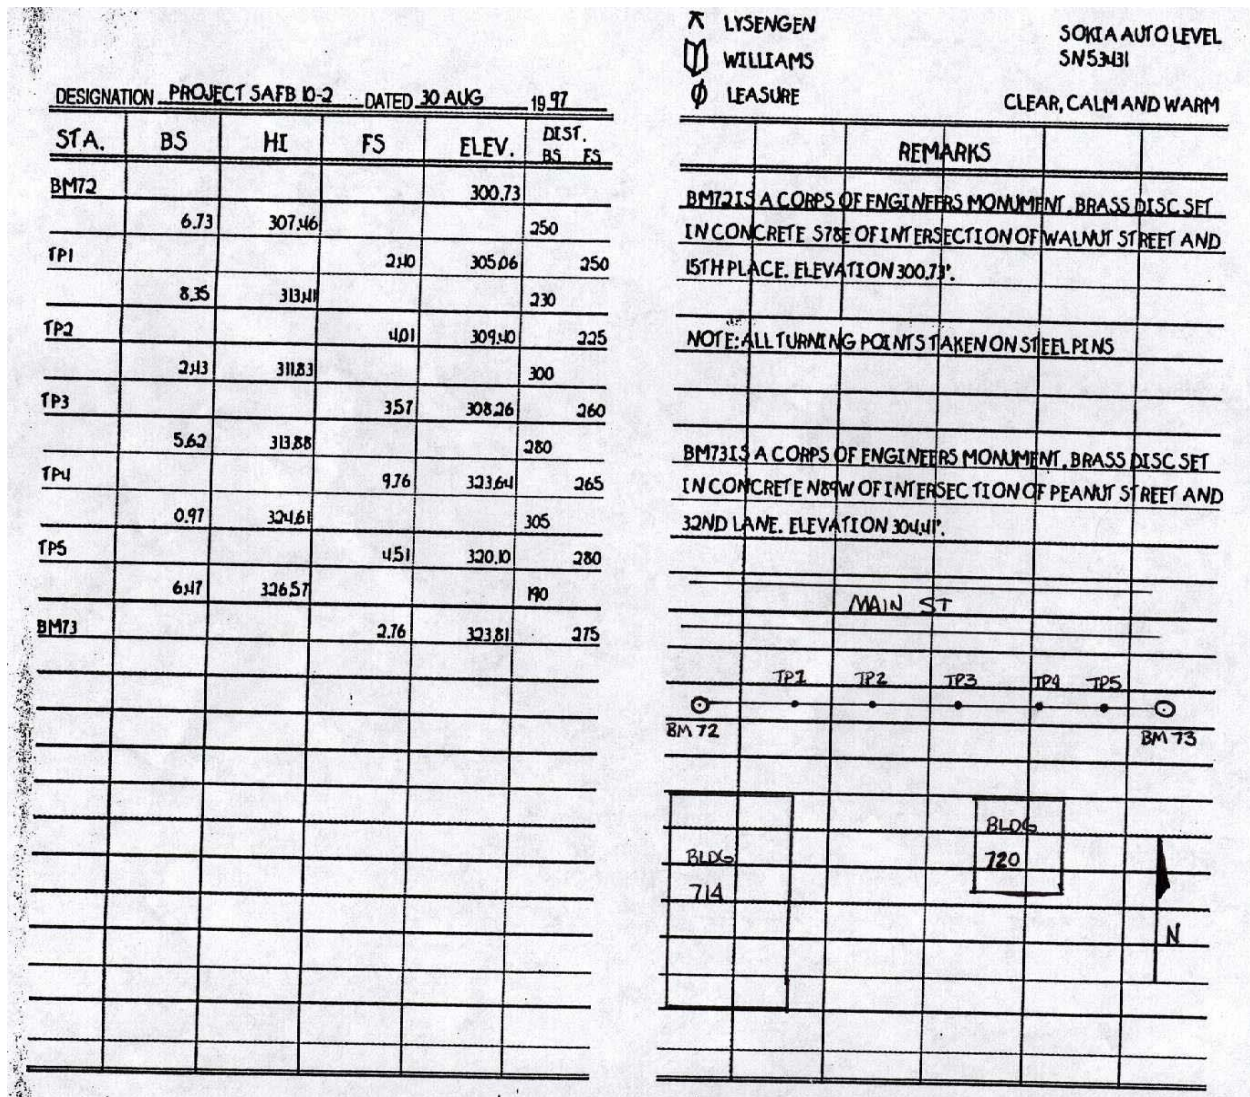

Figure 1
Step 6: Label the columns for the numerical measurements as per figure 1; these headings will vary depending on the type of survey being performed and the type of instrument being used